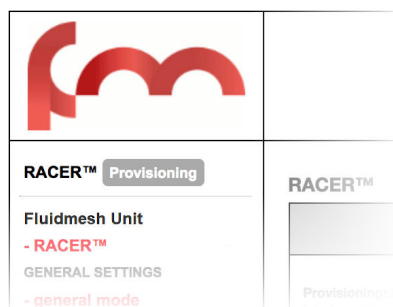

Figure 13. FM Racer status icon (Provisioning Mode)
- Check that the unit is in Provisioning Mode by looking at the colored icon to the right of the **RACER™** tag in the upper left-hand corner of the screen (Figure 13 \(page 51\)).